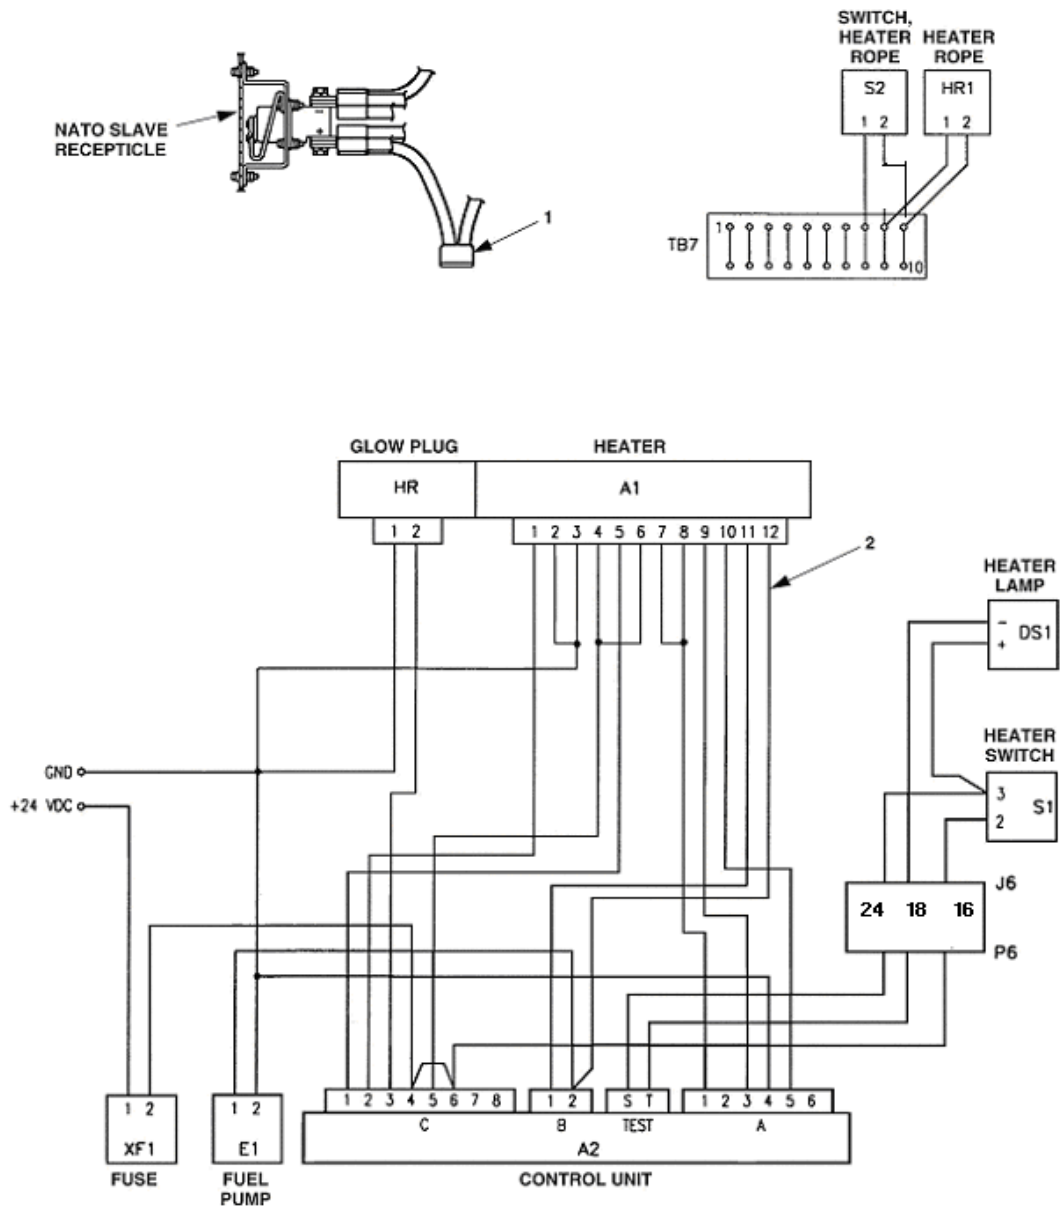

Figure 4-36. Wiring Harness Removal
5. Using a pin removal tool, remove electrical leads from J6-24, 18, and 16 in accordance with wiring diagram, Figure 4-36.
11. Remove insulator (4), tape, foil (3), rope heater (2), electrical leads (6 and 7), clamps (8), and metallic hose (1) from heater rope to TB-7 in output box, thermostat assembly (5) on TB-7, and heater wiring harness, Figure 4-36, from generator.